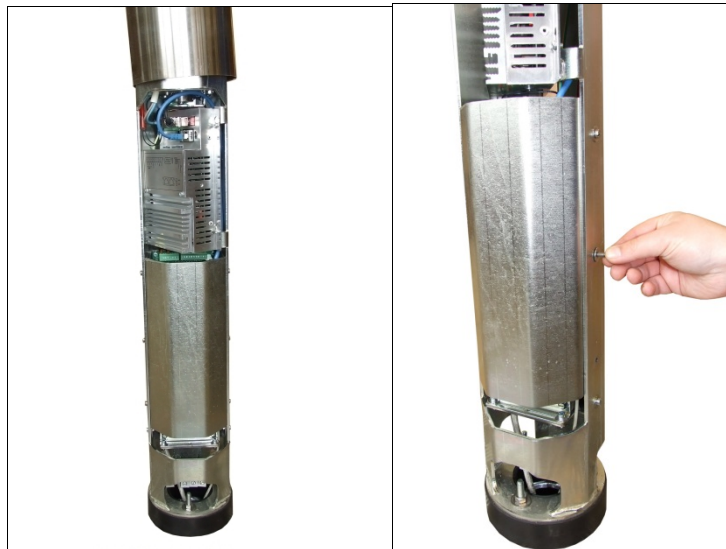

Fig. 12: Left: Outer tube, right: Cover
- Place edge profile at the intended site so that the section in the housing as indicated in Fig. 12 is about central in the direction of the desired home position. Mark bores. Put edge profile aside. Setting bores.